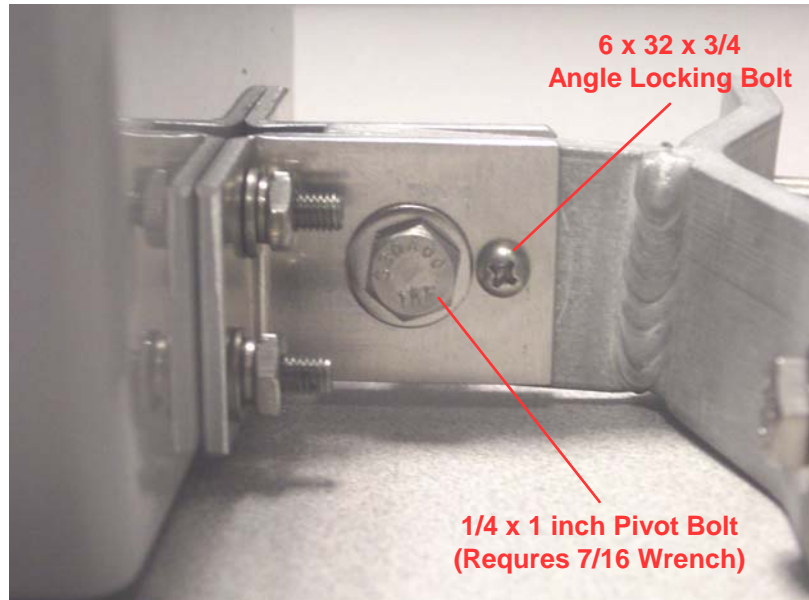

Figure 2-6. EWR Pivot and Angle Locking Bolts
4. If required, loosen the Pivot Bolt and the Angle Locking Bolt (Figure 2-6) so that the antenna connector is positioned vertically.